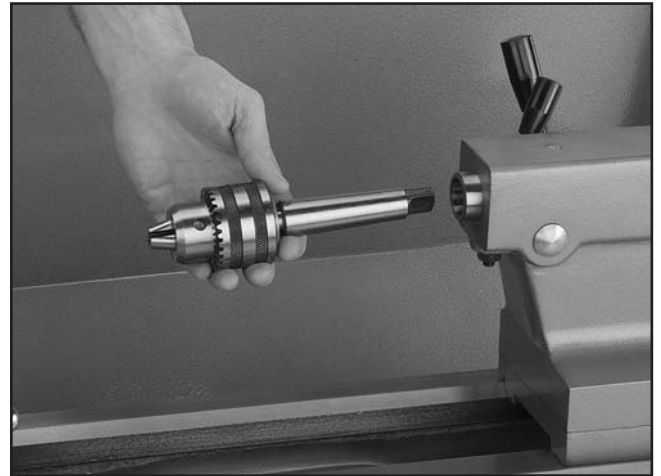

Figure 29. Setting up tailstock for drilling.
3. Insert the tapered drill arbor (**Figure 29**) into the quill until the taper is firmly seated. The matching tapers hold the arbor.